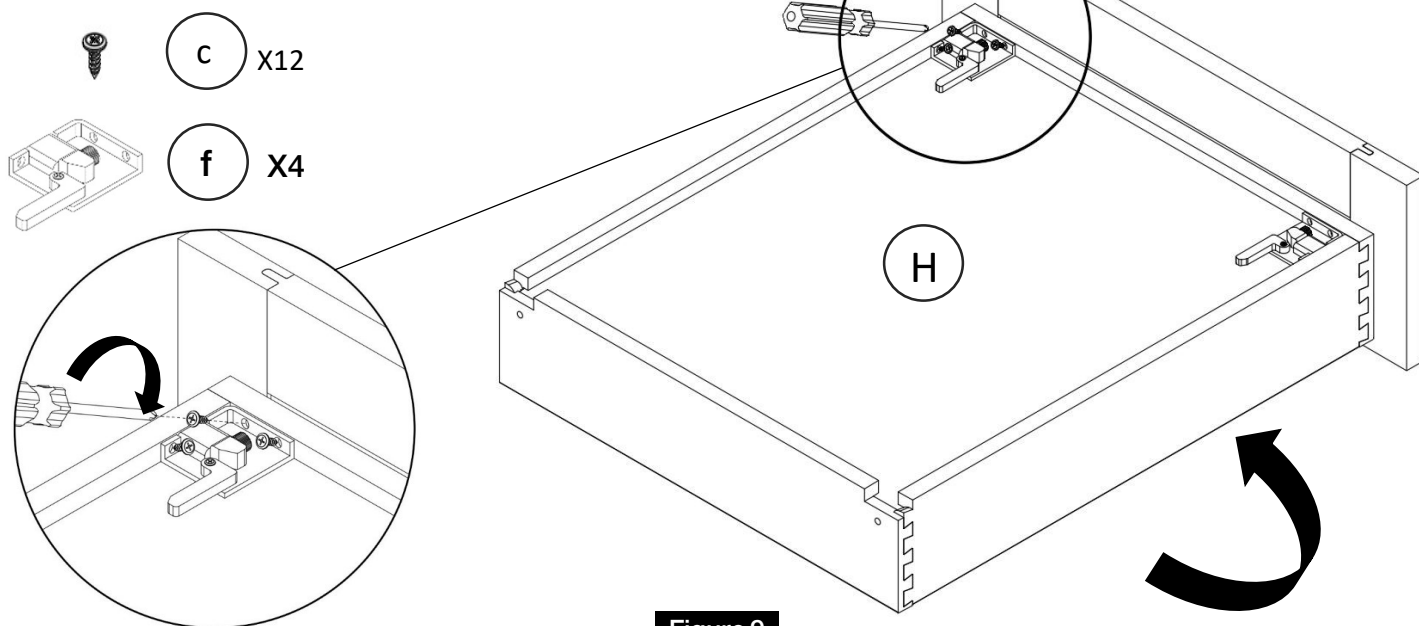

Figure 9
Attach the Drawer Clips (f) using screws (c) onto the bottom of the drawers. (H) (Figure 9)